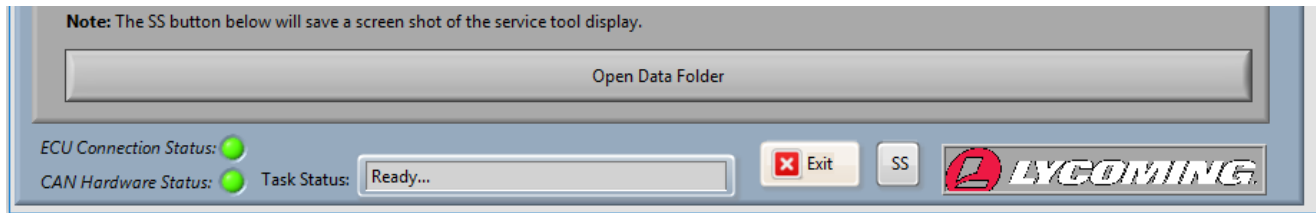

Figure 21
1. Close the FST program by clicking on the **Exit** button at the bottom of the screen (Figure 21).